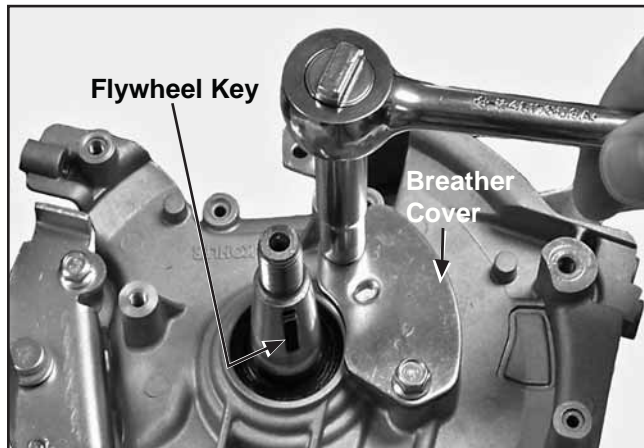

Figure 10-27. Installing Breather Cover.
2. Install the breather cover and torque it to **10 N·m (88 in. lb.)**. See Figure 10-27.
1. Install the key into the crankshaft keyway. Make sure key is fully seated. See Figures 10-27 and 10-28.